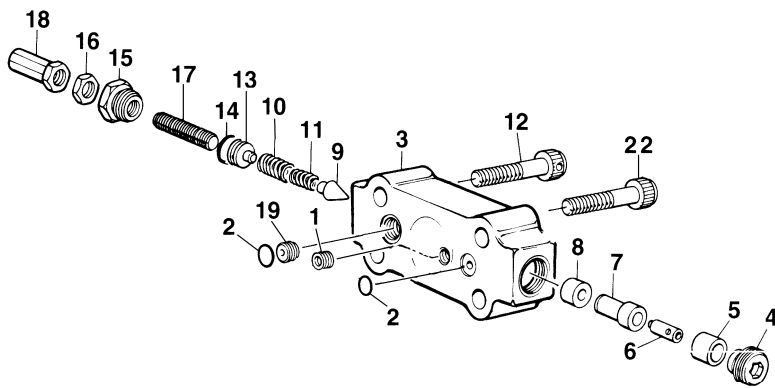

FIGURE 15
See figure 15: Insert plug (19) into inside hole on spring end of cap. Insert orifice plug (1) on center hole in cap.
PARTS LIST FOR FIGURE 15